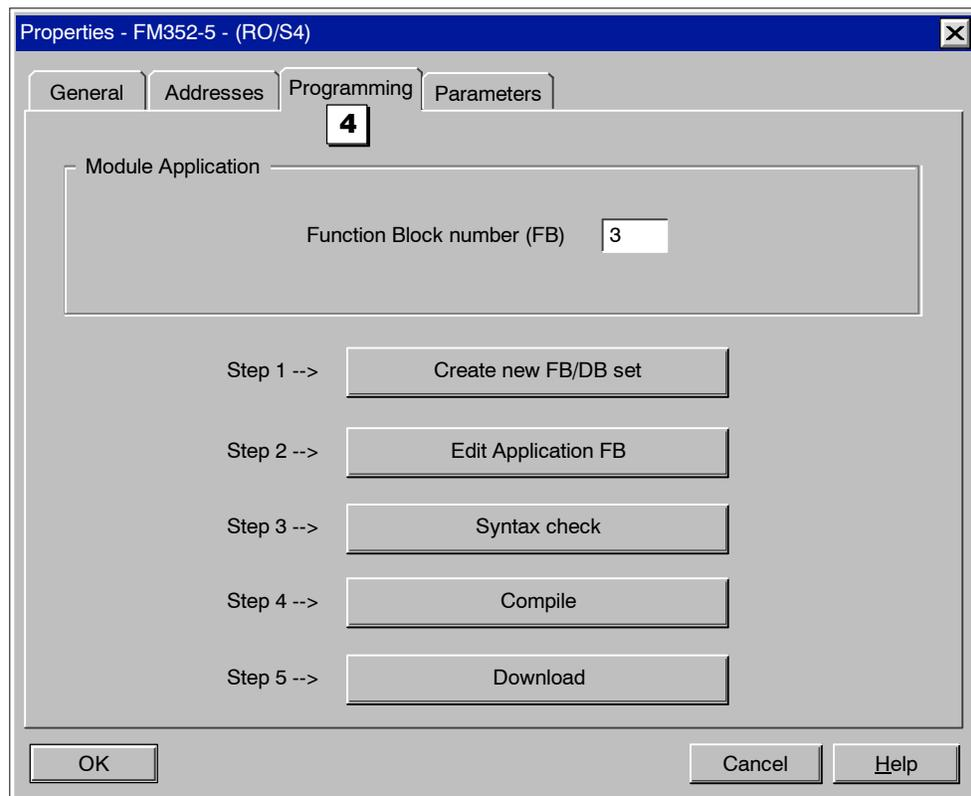

Figure 4-7 FM 352-5 Properties Dialog, Programming Tab
4. The Programming tab of the FM 352-5 Properties dialog, shown in Figure 4-7, provides the interface to the programming environment of the FM 352-5. Use the fields and buttons as described below.